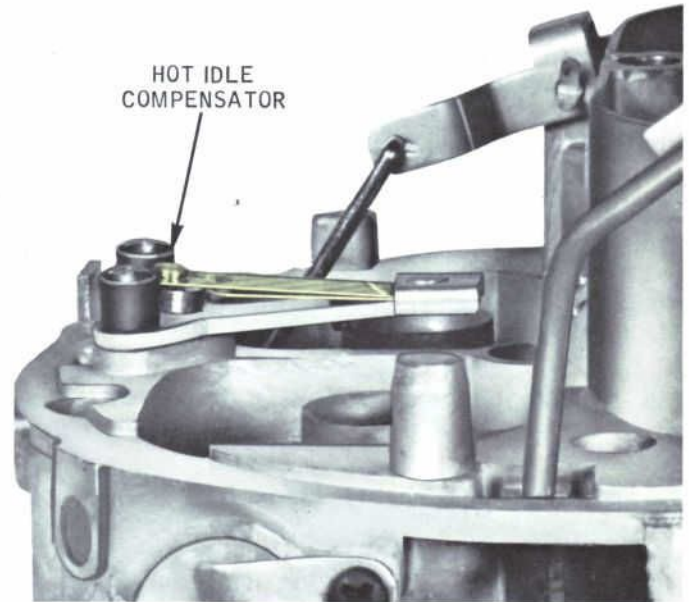

Fig. 31 — Hot Idle Compensator in Seated Position
5. On carburetors equipped with a hot idle compensator or where the idle compensator is in the crankcase ventilation hose, be sure the compensator is seated to allow for proper idle adjustment (Fig. 31).